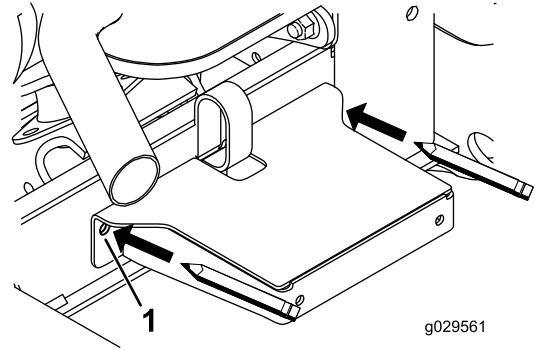

Figure 4
5. Use the frame mount as a template to locate and mark the other 2 fender mounting holes in the frame channel (Figure 4).